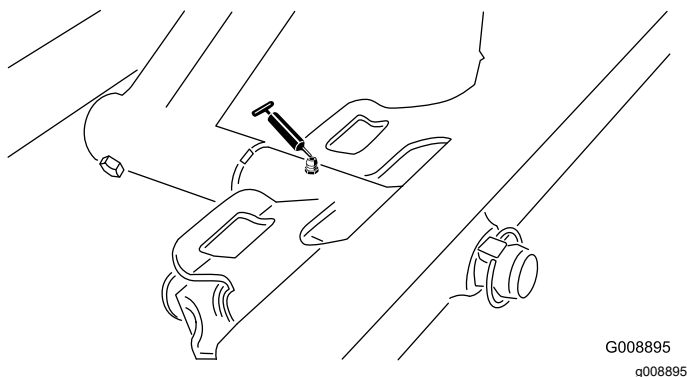

Figure 38
- Front cutting unit pivot (Figure 38)